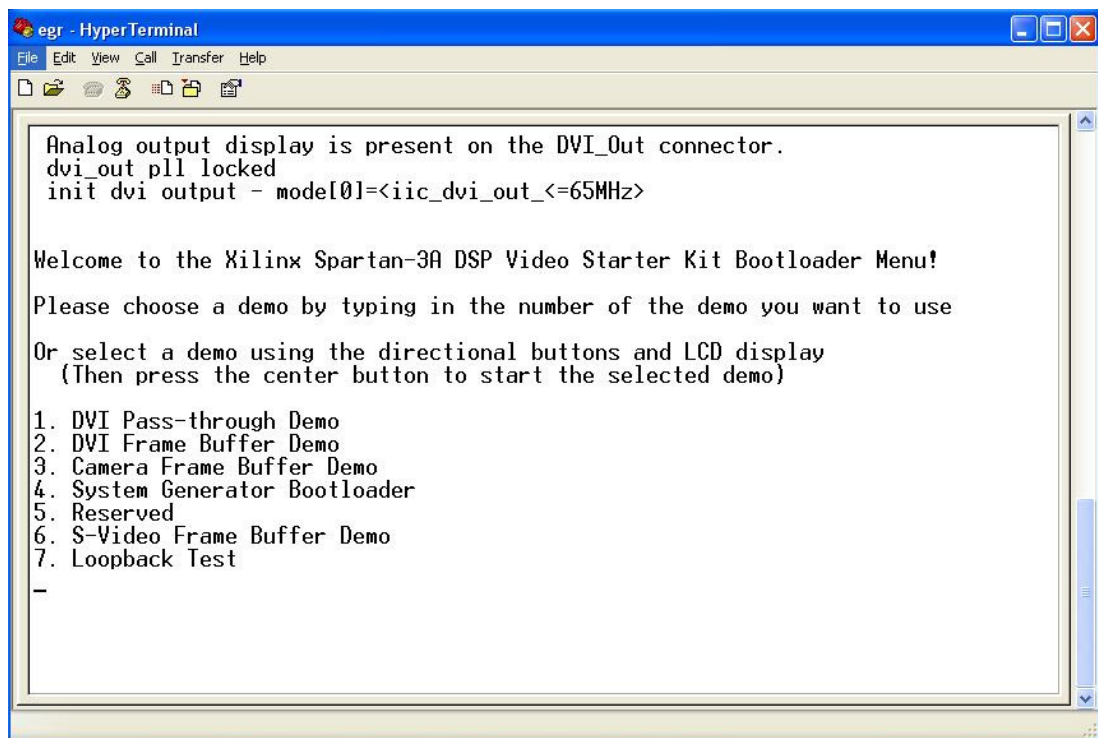

Figure 9: Bootloader Menu
8. The flash will then reload and the HyperTerminal will now display the Bootloader Menu as shown below in Figure 9.